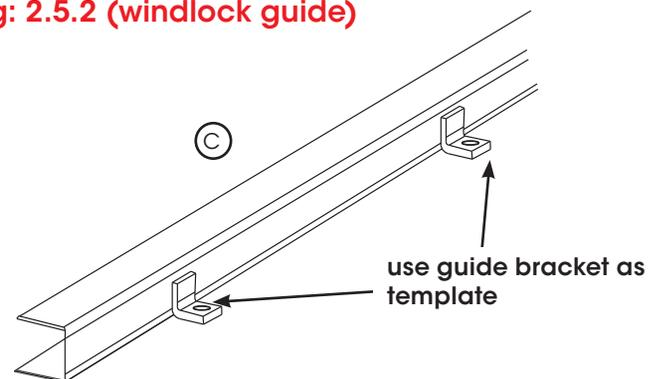

Fig: 2.5.3
- Using the guides brackets as a template (**Fig 2.5.3**) mark out and drill holes in the wall to match the spacing of the fixing bolt holes in the guides bracket.